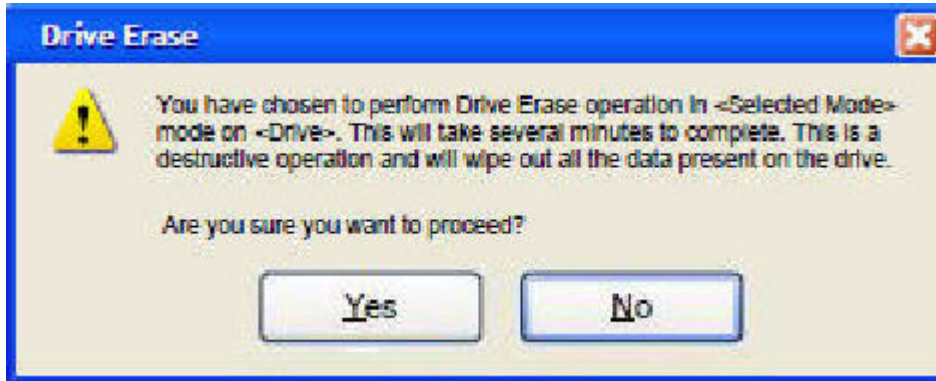

Figure 165 Drive Erase Message
- **Normal** – (Alt + N). Select this option and click **OK**. Figure 165 is displayed.
- **Thorough** – (Alt + T). Select this option and click **OK**. Figure 165 is displayed.